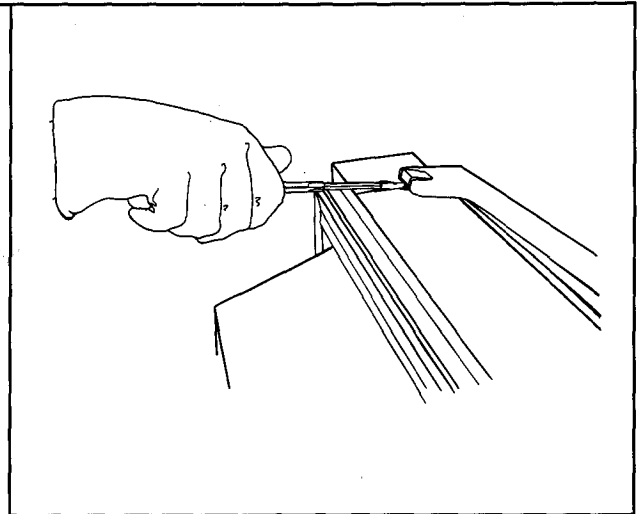

Figure 42
- a. Using a small taped straight edge screwdriver, remove screw cap located on each handle on outside of door by prying back end of screw cap up. See Figure 42.